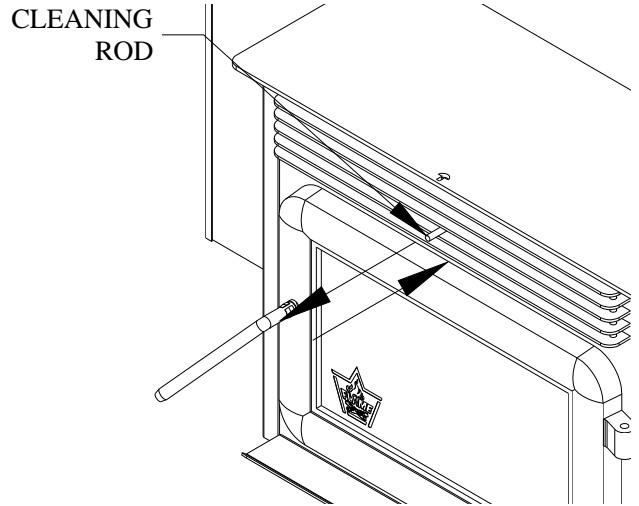

Figure 40
- c. With the door closed, clean heat exchanger tubes by sliding the cleaning rod back and forth. (see Figure 40).
- a. **Heat Exchange Tubes** – Your FP-35 stove is designed with a built-in heat exchanger tube cleaner. This should be used weekly to remove accumulated ash on the tubes. Slide the cleaning rod back and forth two or three times from front to back (refer to figure 40). When finished, push the cleaning rod back in, behind the louvers.